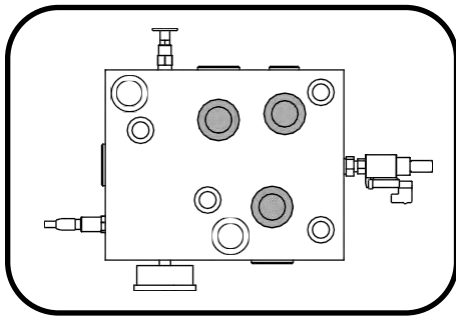

Figure 4.27
- 1) Use 1/4" allen key to remove port plugs on the top and/or bottom of the control valve bodies. (Fig 4.27) Only remove plugs from ports you plan to connect.